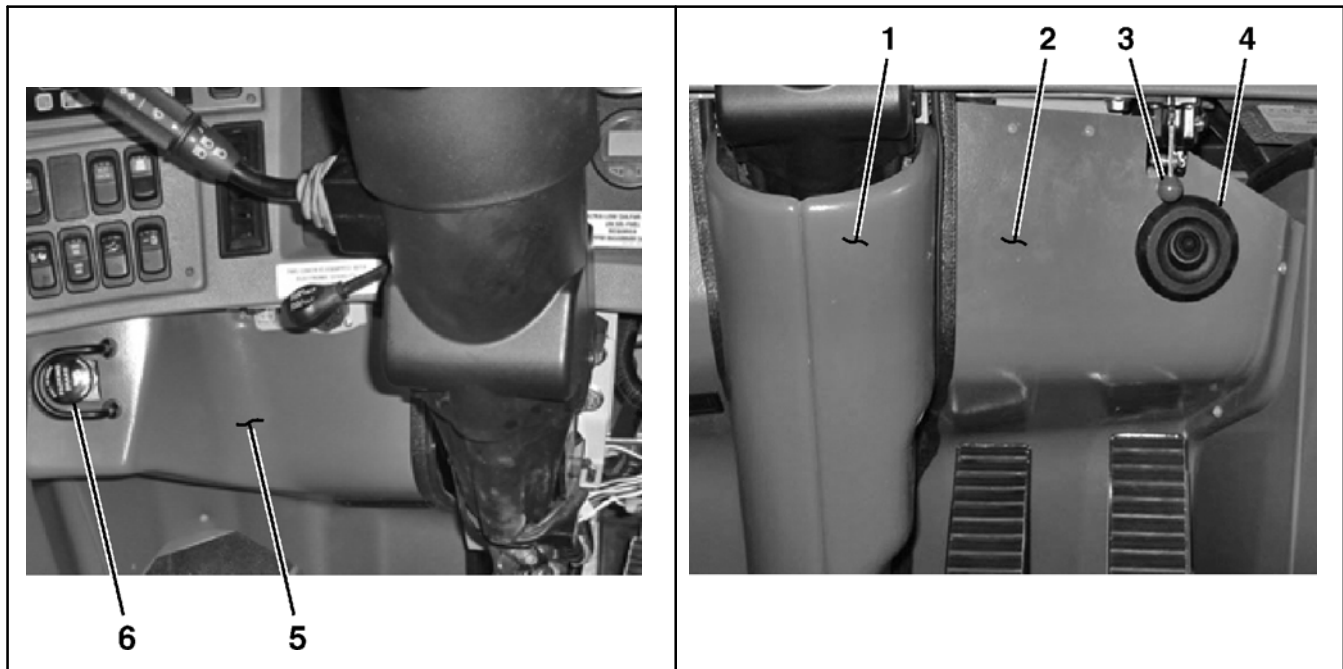

Figure 1. Under-Dash Kickpanel
5. Locate the center under-dash kickpanel, housing the steering column (refer to Figure 1). Remove and retain the screws. Place kickpanel aside to be re-installed at a later step in this procedure.
6. Locate the RH under-dash kickpanel behind the accelerator and brake pedal (refer to Figure 1). Remove and retain the screws. Maneuver kickpanel past the entrance door air dump valve and pull forward to access the flex hose attached to the back of the gasper assembly. Remove the flex hose from the back of the gasper assembly. Place kickpanel aside to be re-installed at a later step in this procedure.